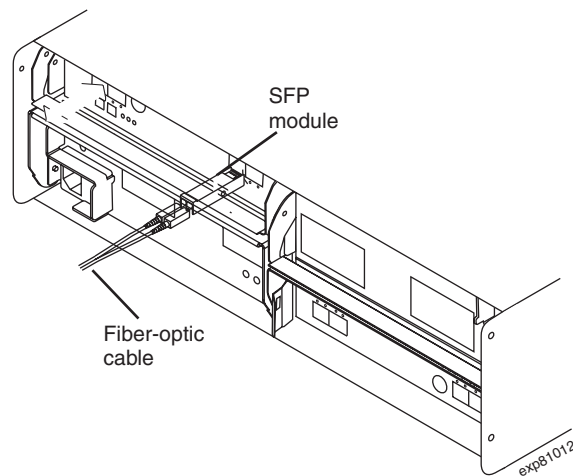

Figure 60. Installing an SFP module and connecting an LC-LC cable to the storage expansion enclosures
2. Connect an LC-LC fiber-optic cable into the SFP module, as shown in Figure 60 on page 85.
Install an SFP module in the SFP port on the back of the storage expansion enclosures; then, connect the other end of the LC-LC cable into the SFP module, as shown in Figure 60.